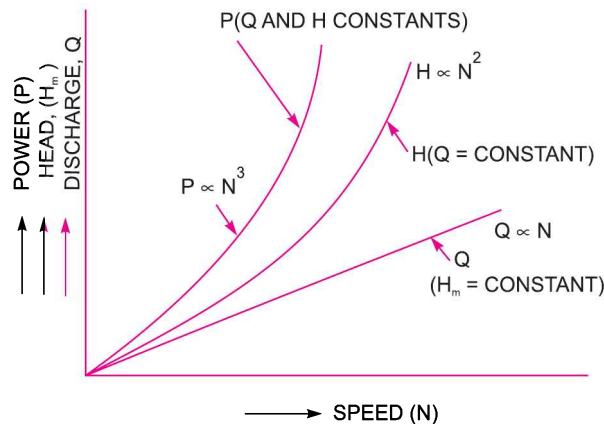

Fig. 19.14 Main characteristic curves of a pump.
19.10.1 Main Characteristic Curves. The main characteristic curves of a centrifugal pump consists of variation of head (manometric head, H_m), power and discharge with respect to speed. For plotting curves of manometric head *versus* speed, discharge is kept constant. For plotting curves of discharge *versus* speed, manometric head (H_m) is kept constant. And for plotting curves of power *versus* speed, the manometric head and discharge are kept constant. Fig. 19.14 shows main characteristic curves of a pump.
For plotting the graph of H_m versus speed (N), the discharge is kept constant. From equation (19.19 A), it is clear that $\sqrt{H_m}/DN$ is a constant or $H_m \propto N^2$. This means that head developed by a pump is proportional to N^2 . Hence the curve of H_m v/s N is a parabolic curves as shown in Fig. 19.14.
From equation (19.22), it is clear that P/D^5N^3 is a constant. Hence $P \propto N^3$. This means that the curve P v/s N is a cubic curve as shown in Fig. 19.14.
Equation (19.21), shows that $\frac{Q}{D^3N} = \text{constant}$. This means $Q \propto N$ for a given pump. Hence the curve Q v/s N is a straight line as shown in Fig. 19.14.